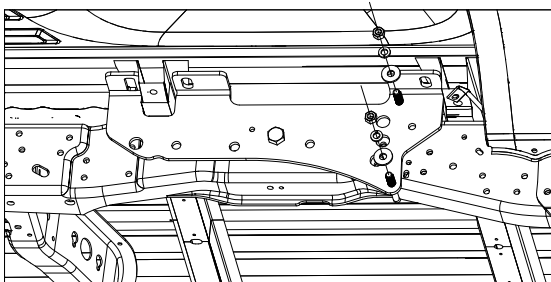

Figure B3: View looking into passenger side wheel well.
2. **Install the U-bolt.** Next locate the 1/2" x 6-3/4" x 4" U-bolt, two 1/2" flat washers, 1/2" lock washers, and 1/2" finish nuts. Pass the U-bolt over the inside of the frame and into the two mounting holes in the frame bracket, as shown in figure B3. Attach the U-bolt to the frame bracket with the two 1/2" flat washers, 1/2" lock washers and 1/2" finish nuts. Do not tighten at this time. Repeat this steps 1 & 2 for the other side of the truck frame.